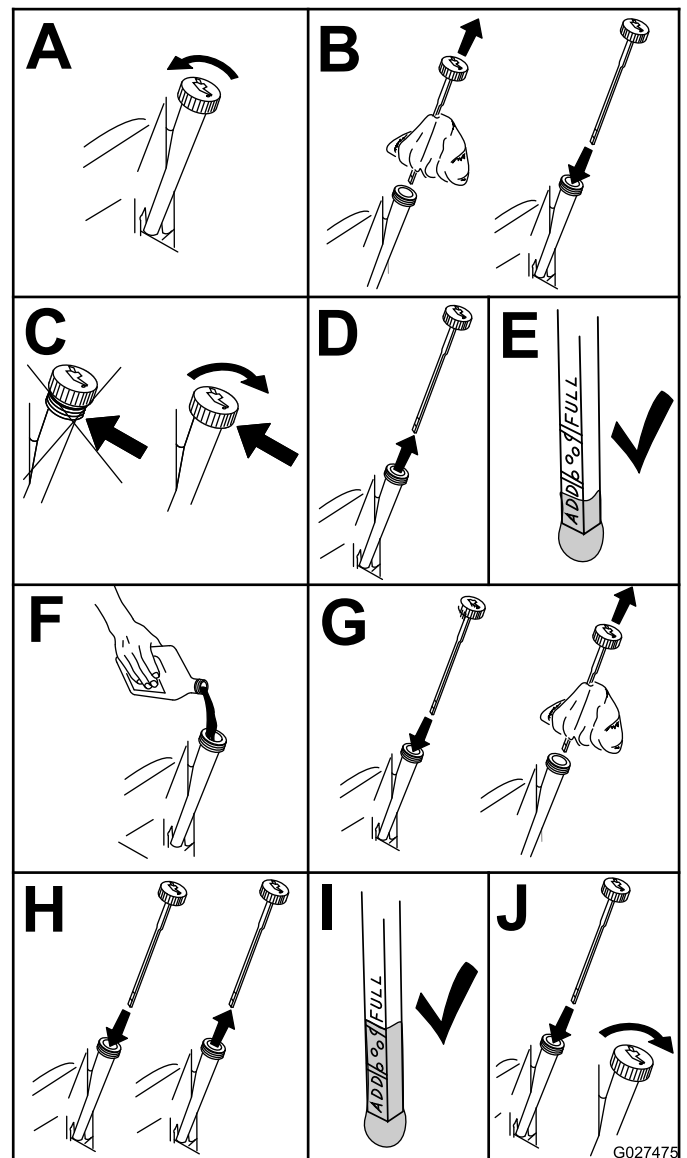

Figure 27
4. Check the engine-oil level (Figure 27).